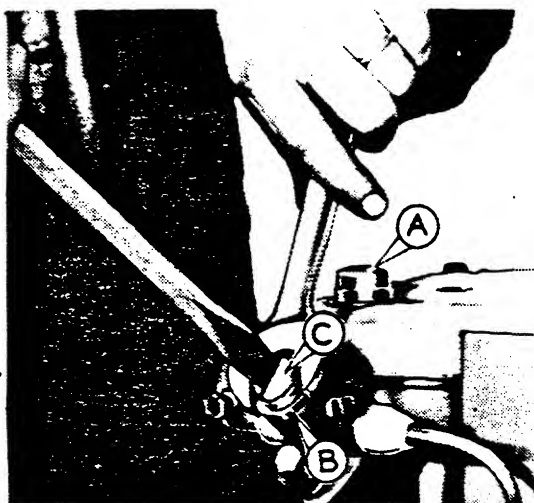

FIG. 31 - NOZZLE ADJUSTMENT
- (1) Start the engine and allow it to run until it is thoroughly warmed up.
- (2) Remove the top cover (A) from the nozzle holder. See Fig. 31.
- (3) Loosen the lock nut (B) just enough to allow the adjusting screw (C) to turn.
- (4) Insert a screwdriver into the screwdriver slot of the adjusting screw (C), hold a wrench on the lock nut (B) and turn the adjusting screw in first one direction and then the other until the knock is least noticeable. CAUTION: Do not turn the adjusting screw more than one turn in either direction from its original position. If nozzle adjusting screw is turned out too far, the burning gases from the combustion chamber may be forced back into the nozzle, causing it to foul and the pintle to stick. If this happens, the nozzle will need to be cleaned or replaced.
- (5) Lock the adjusting screw nut (B) securely after making an adjustment. Then replace the cover (A) securely on the nozzle holder being sure the two thin washers are in place under the cover.